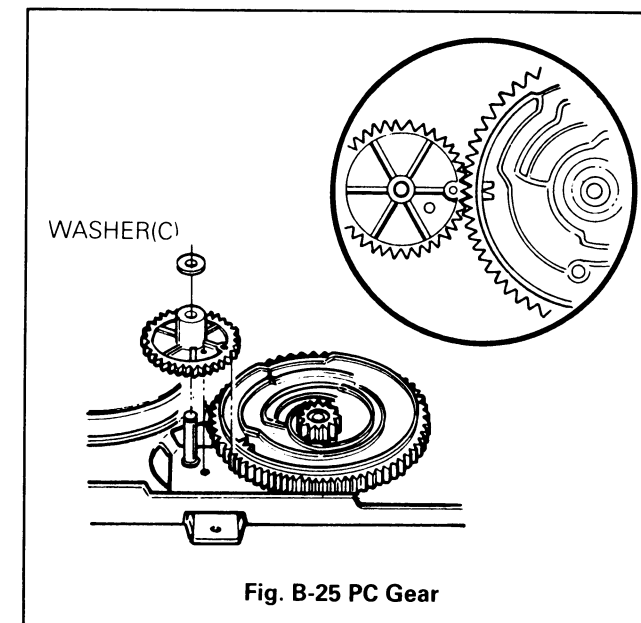

Fig. B-25 PC Gear
- ① Align the Projection of Rack Gear T with the hole of Loading Gear.
- ② Drive the Rack Gear F.L in the direction of arrow(D).
- ③ Hole of Cam should be aligned with the hole of chassis, and the groove(■) of Cam Gear should be aligned with the hole of PC Gear (Fig. B-25)
25. PC Gear(Fig. B-25)
- ① The Groove of PC Gear should be aligned with the groove(V) of Cam Gear, and another hole of it should be aligned with the hole of chassis (Fig. B-25).